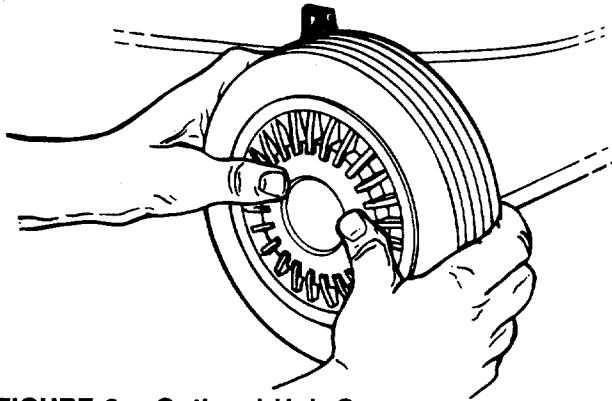

FIGURE 8.—Optional Hub Caps
- ← 2. If your mower is equipped with 2" wide tires, place hub caps in position against the inner hub of the wheel. Press firmly around the center portion of hub cap in a circular motion, similar to installing a lid on a round, plastic container. See figure 8. The hub caps are flexible and will snap over the 3½" diameter wheel hubs.